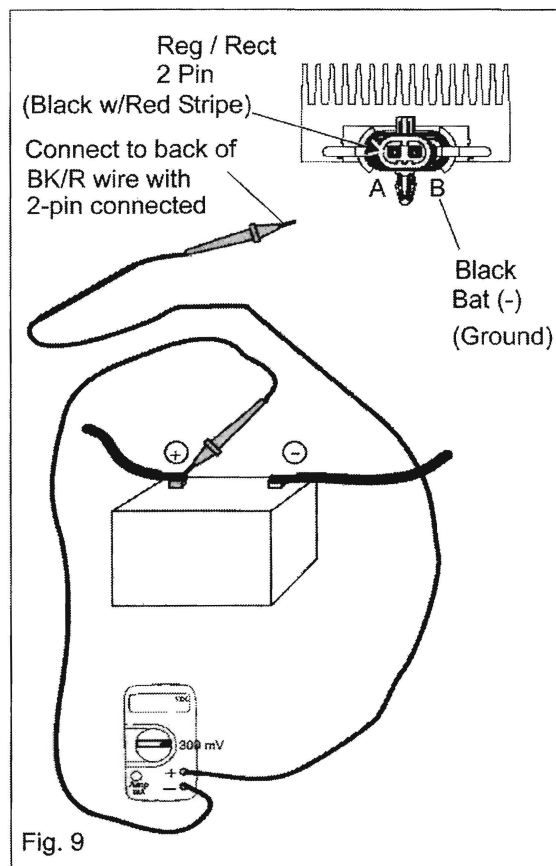

Fig. 9
2. Connect red lead (+) of DMM to Black/Red wire coming out of regulator / rectifier. (Fig. 9)